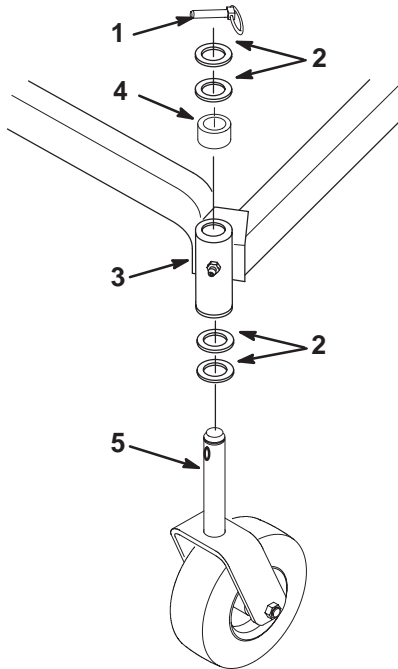

Figure 2
1. Place 2 thrust washers onto the caster wheel fork (Fig. 2).
2. Insert the caster wheel fork into the carrier frame mounting tube (Fig. 2).
3. Install 2 thrust washers and the spacer onto the caster wheel fork, then secure with a locking pin (Fig. 2).